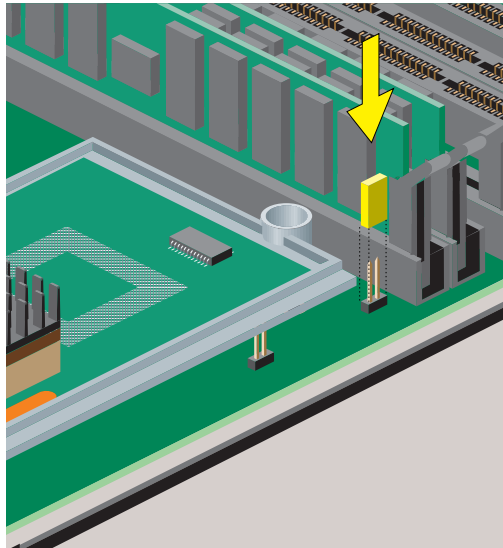

Figure 4-11 Installing the Jumper
6. Reinstall the jumper in the location shown in Figure 4-11.